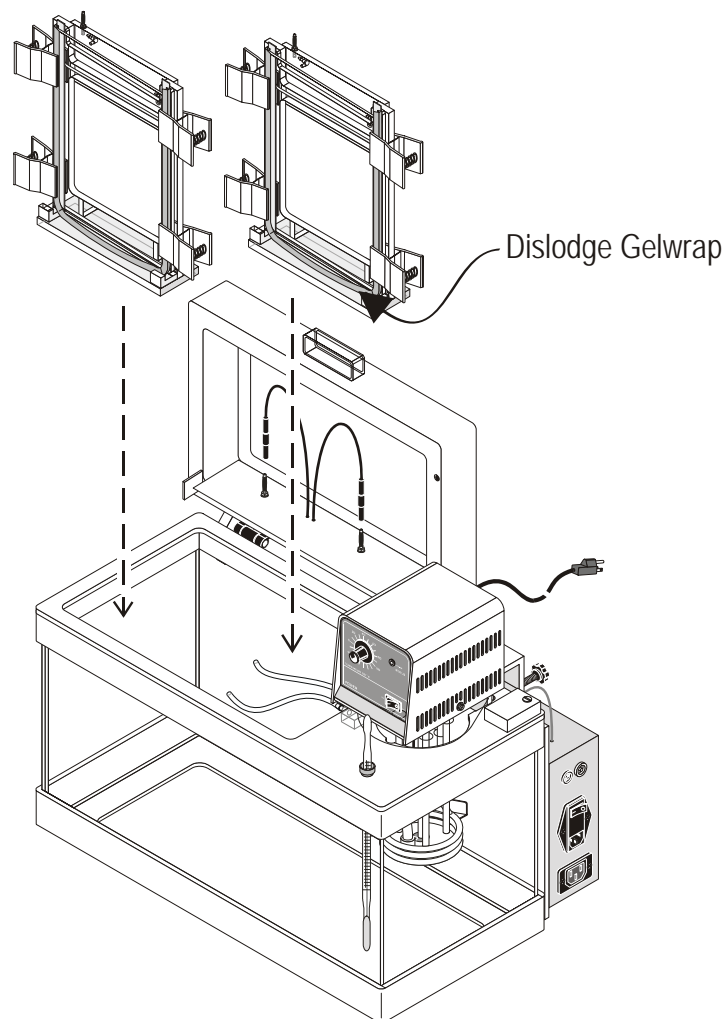

Fig. 3-8
2. Remove comb and quickly transfer gel sandwich to cassette by removing all #2 clamps. **LEAVE GEL WRAP IN PLACE.** The Gel Wrap acts as a barrier and prevents perpendicular electrical fields from interfering with outside lanes. Re-clamp to cassette using #1 clamps/4 per side. Dislodge by pulling the bottom section of the Gel Wrap from the plates to allow buffer contact with the gel. See figure 3.8.
3. Immerse cassette into pre-heated buffer tank (fig.3.8), and attach recirculating tubing to each upper reservoir (fig. 3.9 a,b,c). Rinse loading interface of gel with tank buffer to remove non-polymerized acrylamide or excess urea. Rinse each well with buffer and fill upper reservoir
10. Remove comb and quickly transfer gel sandwich to cassette by removing all #2 clamps. **LEAVE GEL WRAP IN PLACE.** The Gel Wrap acts as a barrier and prevents perpendicular electrical fields from interfering with outside lanes. Re-clamp to cassette using #1 clamps/4 per side. Dislodge the bottom section of the Gel Wrap from the plates to allow buffer contact with the gel. See **figure 3.8** (page 18).
11. Immerse cassette into pre-heated buffer tank, and attach recirculating tubes to each upper reservoir (**fig. 3.8, 3.9a,b,c**). Rinse loading interface of gel with tank buffer to remove non-polymerized acrylamide or excess urea. Rinse each well with buffer and fill upper reservoir